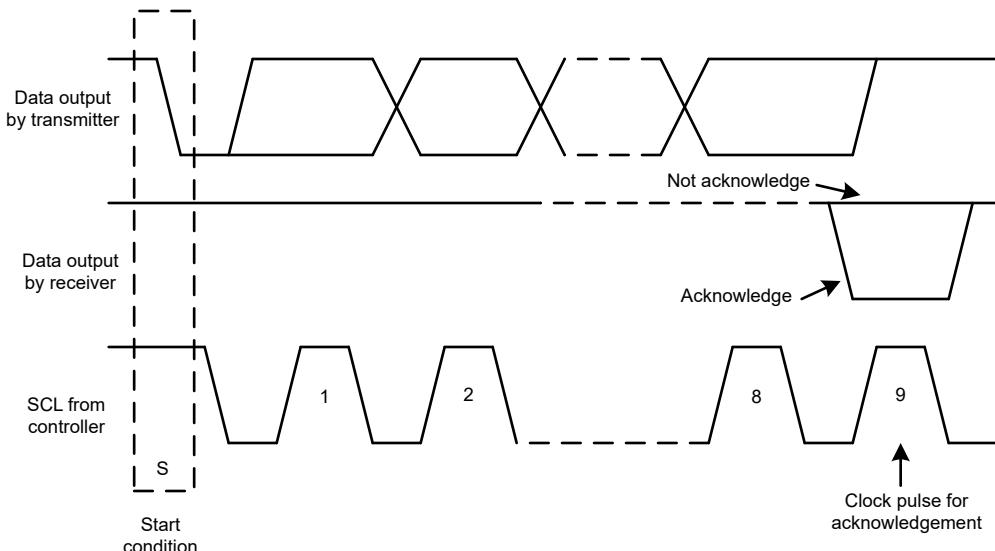
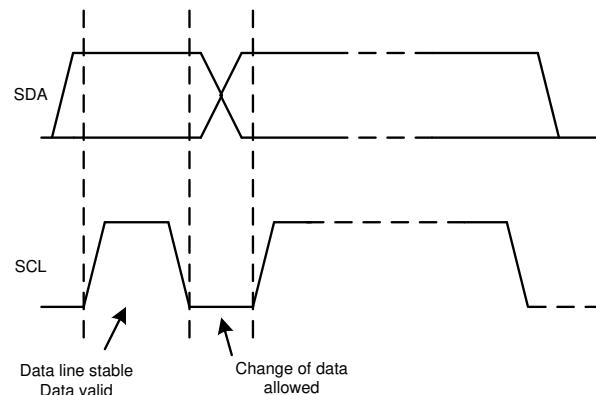

Figure 7-14. Acknowledge and Not Acknowledge on the I²C Bus
Figure 7-16. Bit Transfer on the I²C Bus
Other than specific timing signals, the I²C interface works with serial bytes. At the end of each byte, a ninth clock cycle generates and detects an acknowledge signal. An acknowledge is when the SDA line is pulled low during the high period of the ninth clock cycle. A not-acknowledge is when the SDA line is left high during the high period of the ninth clock cycle, as shown in Figure 7-14.
2. The controller then generates the SCL pulses, and transmits the 7-bit address and the read/write direction bit (R/W) on the SDA line. During all transmissions, the controller makes sure that data are valid. A valid data condition requires the SDA line to be stable during the entire high period of the clock pulse, as shown in Figure 7-16. All devices recognize the address sent by the controller and compare the address to the respective internal fixed address. Only the target device with a matching address generates an acknowledge by pulling the SDA line low during the entire high period of the 9th SCL cycle, as shown in Figure 7-14. When the controller detects this acknowledge, the communication link with a target has been established.